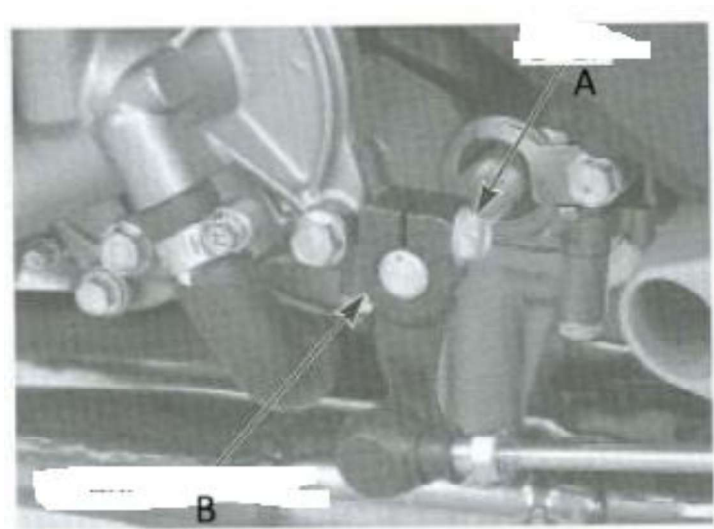

Figure 12
19. Remove the screw (Figure 12, item A) that attach the gear shift arm (item B) to the engine. Discard the hardware.